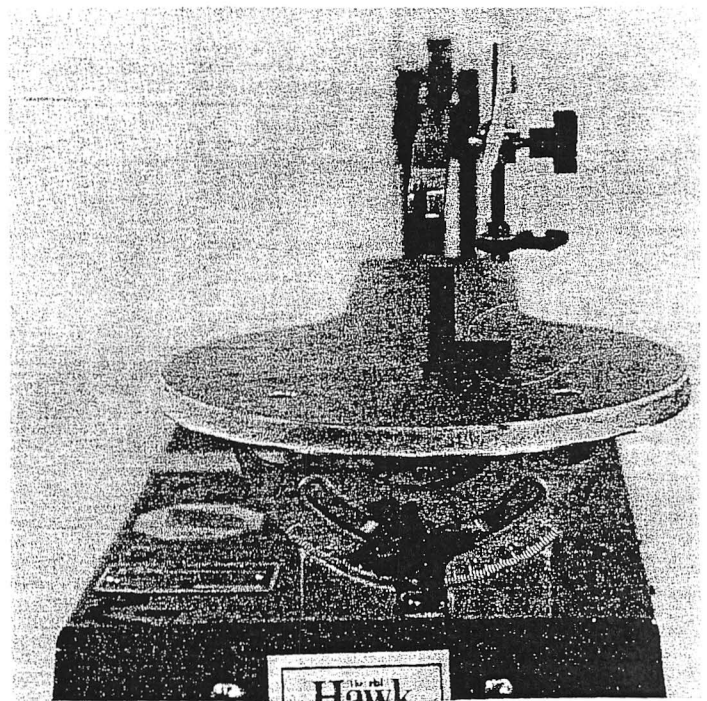

Fig. 18
4. When the square fits perfectly against the blade, tighten the table tilt knob. (Fig. 18)